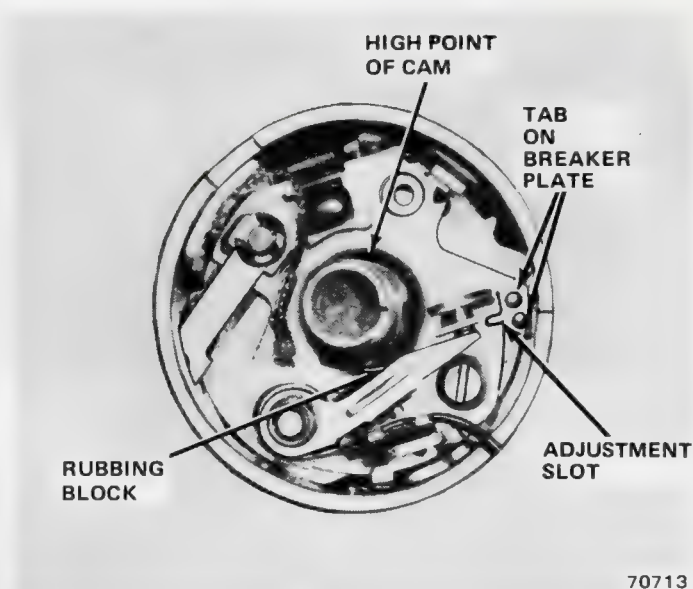

Fig 1A-4 Setting Ignition Points
- (1) Remove distributor cap, rotor and dust cover.
- (2) Disconnect condenser and point assembly primary wires.
- (3) Remove condenser retaining screw and remove condenser.
- (4) Remove point assembly retaining screw and remove points.
- (5) Wipe distributor cam clean and inspect surface. If cam is not damaged, apply small amount of distributor cam lubricant to cam lobes.
- (6) Install replacement point assembly.
- (7) Rotate engine until point rubbing block is on high point of distributor cam lobe.
- (8) Loosen point assembly retaining screw slightly and insert screwdriver in adjustment slot and between tabs on breaker plate. Turn screwdriver to adjust point gap. Measure gap (0.018 inch or 0.45 mm) with a clean, flat feeler gauge (fig. 1A-4). Tighten point assembly retaining screw and recheck point gap making sure rubbing block is on high point of cam.
- (9) Install condenser and retaining screw.
- (10) Connect coil feed and point primary wires to condenser.
- (11) Install dust cover, rotor and distributor cap.
- (12) Check ignition timing and adjust, if required.
Visually inspect the rotor for cracks, evidence of burning or corrosion on the metal tip, or evidence of mechanical interference with the cap (fig. 1A-5). Some burning is normal on the end of the metal tip. Inspect the spring for